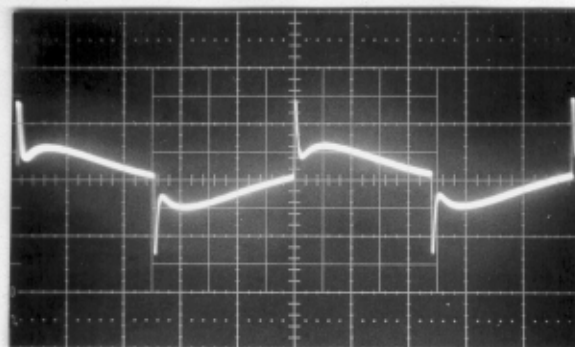
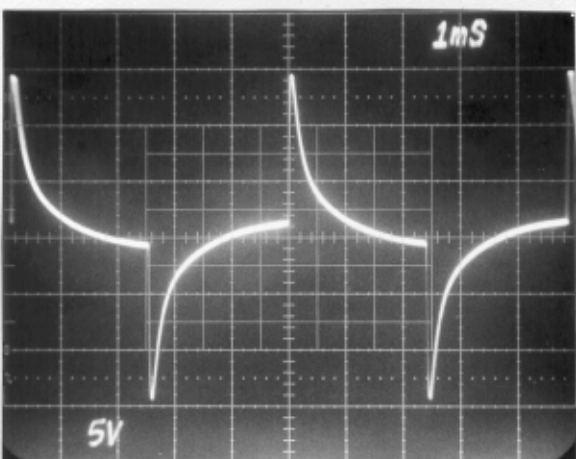

Fig. 5. Hi-Mid to 0.
Fig. 4. Hi-Mid to 10.
- B) Hi-mid to 10-Fig.4; hi-mid to 0-Fig.5.